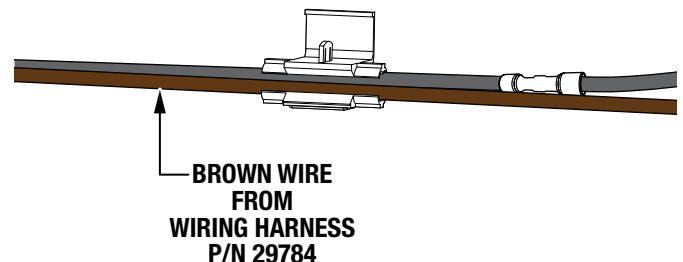

Figure 18. Brown Wire Placement (Splice Connector)
- Place either of the brown wires extending from the end of the wiring harness (P/N 29784) into the other splice connector channel as shown in Figure 18.